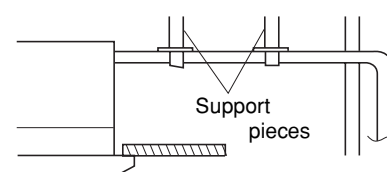

Fig. 3-11
- Do not apply force to the piping on the unit side when connecting the drain pipe. The pipe should not be allowed to hang unsupported from its connection to the unit. Fasten the pipe to a wall, frame, or other support as close to the unit as possible. (Fig. 3-11)